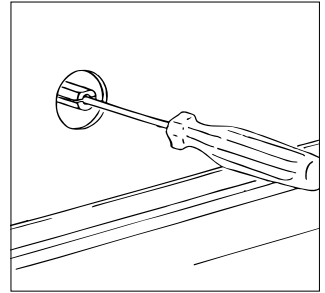

Fig. 17 Adjusting the minimum burner setting: four-function models
- 4 Using a small flat screwdriver, turn the screw (see Figs. 17 or 18) to the correct regulation.